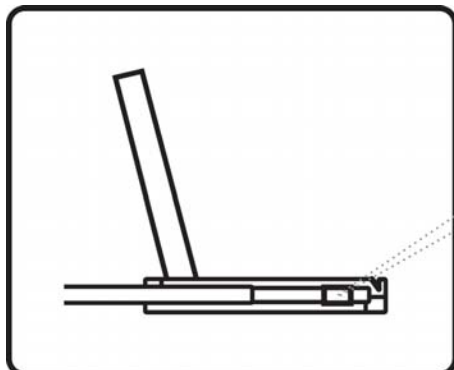

Figure 14
- A black arrow release button is located on the outside of each slide. (shown in **Figure 14**).